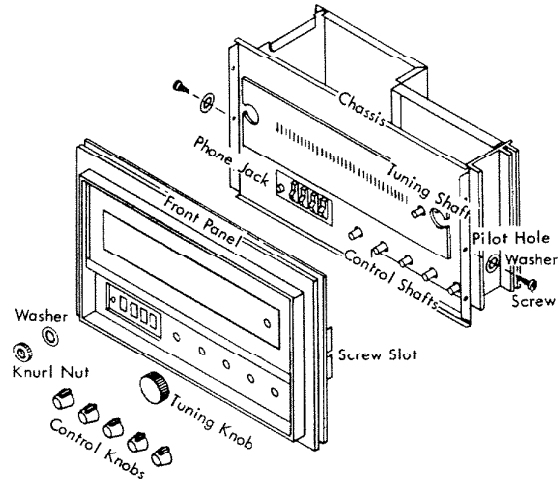

Fig. 1.32
1. Removing Front Panel: (Fig. 1.32)